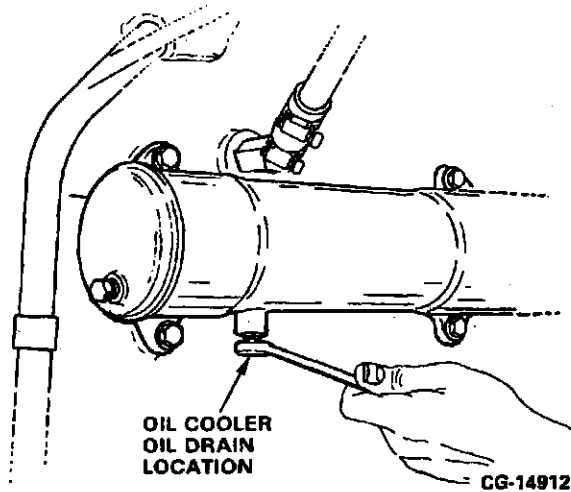

Figure 9.23. Drain Oil from the Oil Cooler
- a. Drain the oil from the oil cooler. Refer to Figure 9.23.